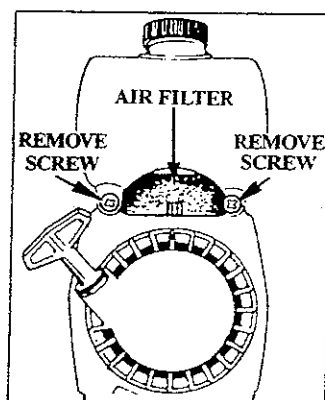

Figure 24
3. Remove the two screws and two washers from the fuel tank. Figure 24. Set fuel tank aside.